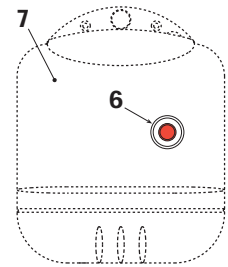

fig. 1
To shut the boiler down, move the switch 5 (Fig. 1) on the control panel to position "O" and close the fuel on-off valve.
- a - Burner lockout signalled by the corresponding light 6 (Fig. 1). Refer to the burner manual.